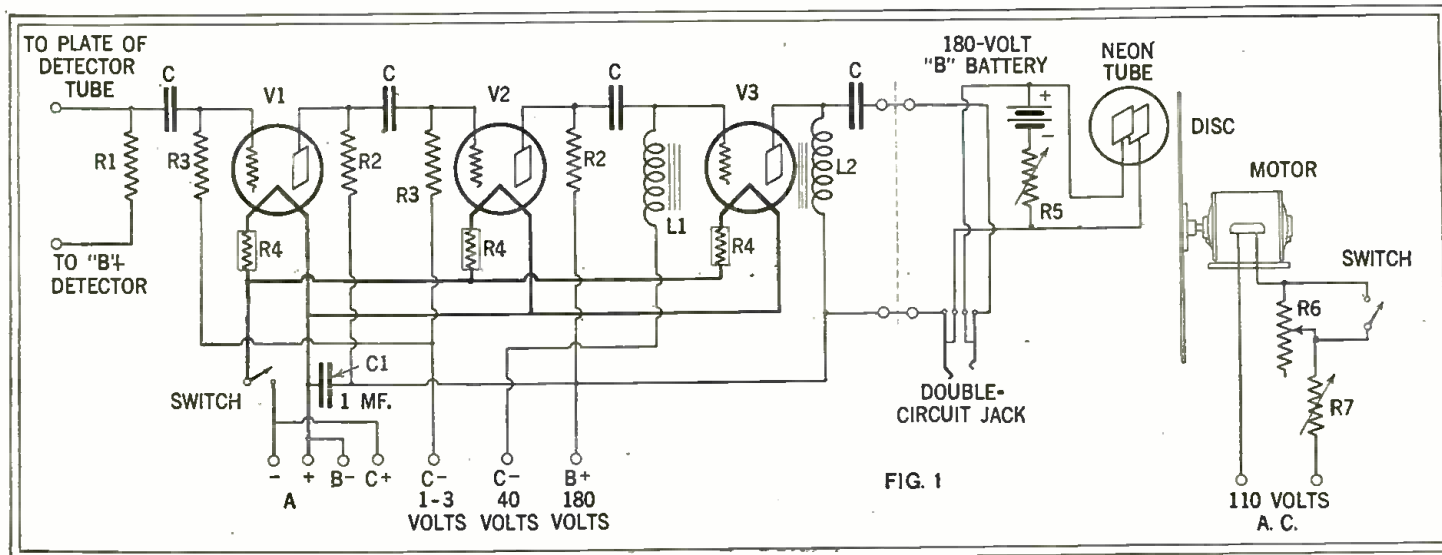

FIG. 1
Behind the disc, when it is mounted in the transmitter, as shown at the left of Fig. 1, is arranged an intense source of light. In front of the disc, and in line with the light-source, a lens is placed in such relation to the disc that a spot of transmitted light is caused to traverse the object. This arrangement is duplicated, so that each spiral has its lens and light-source; thus, two light spots traverse the object alternately, and two images are transmitted, one for the left eye and one correspondingly for the right eye.
At the receiving station a similar device is used, as indicated at the right of Fig. 1. A disc with the same arrangement of holes runs exactly in step with the transmitting disc; but behind the receiving disc is a neon tube, arranged as in ordinary television. The neon tube, however, covers both spirals and illuminates them alternately; so that on the receiving screen appear two images side by side, and separated by approximately half an inch. One of these corresponds to the object as seen by the right
If you are able to use your regular broadcast receiver for WRNY, you will not use for television reception the present audio amplifier if it is of the transformer type. Simply run a wire from the plate (P) post of the detector tube to the top input post of the resistance-coupled amplifier shown in Figs. 1 and 3, unhook the "B+Det" wire running to the power unit or "B" batteries, and bring this same wire to the other input post of the audio amplifier instead. With this arrangement, the detector will be feeding directly into the resistance-coupled amplifier.
You will need the following parts, arranged and connected as shown in Figs. 1 and 3: a wooden baseboard; three UX-type tube sockets, V1, V2, V3; three 1/4-ampere filament ballast resistors, R4; two double-resistor mountings; four 0.5-mf. fixed condensers of the by-pass type, C; one 1.0-mf. condenser, C1; a special high-value grid
shown in Fig. 1. In this position it overcomes the tendency of the amplifier to "motorboat" when used with a "B" socket-power device. The tubes V1 and V2 are of the 240 ("high-mu") type, while V3 is a 171A.
The best arrangement is shown in Fig. 1. The two output posts of the resistance-coupled amplifier are led to a double-circuit telephone jack, which may be mounted on
An alternate arrangement for the output of the amplifier shown in Fig. 1.
A simple layout for an amplifier such as that shown in Fig. 1. It uses straight resistance coupling in the first two stages (see preceding pages for values), a grid impedance coil, and an output
An alternate circuit arrangement is shown in Fig. 2. Here the neon tube is connected directly in series with the plate circuit of the last audio tube, with a single-pole, double-contact switch to shift the output of the tube. The rest of the amplifier and motor circuit is exactly like that of Fig. 1. This is a simple hook-up; but its main disadvantage is that the voltage applied to the "B+" post must be at least 300 volts, as there is a drop of about 150 volts across the neon tube itself, and V3 is a 171A, which operates on 180 volts. As no "B" power unit designed for 171 operation will supply more than about 220 or 250 volts, it will be necessary to connect one or two 45-volt "B" battery blocks in series with the highest voltage lead from the unit you have. At least, this will be cheaper than using four 45-volt blocks for the hook-up of Fig. 1.
The audio amplifier need not be limited to a 171A for the output stage. A 210-type power amplifier will work perfectly well, but in this case the shunt-feed scheme of Fig. 1 should be used. The series arrangement of Fig. 2 will strain the power pack and the neon tube is likely to be burned up by the high plate current. With the Fig. 2
As will be seen from Fig. 1, the construction of the television lamp is apparently quite simple; although this simplified appearance has been secured only after a great deal of research work with gaseous-conduction tubes and neon lamps of all types and for many different uses. Indeed, the development and refinement of this device has involved a review of many rare gases, a deep study of atomic structure, and a long process of reasoning out the acrobatics of electrons. The highly intricate action taking place in the miniature universe of the gas contained in the television lamp is, therefore, not at all in keeping with the utter simplicity of the mechanism and electrical features of the device; yet we must master the first before we can enjoy the second.
The "glow" takes place uniformly over the surface of either one or the other of the two flat and parallel plates (P and P1, Fig. 1); the effect depending upon which plate is connected to the positive and which to the negative side of the power supply. The two parallel plates are so placed with respect to each other as to utilize the principle of "short-path" insulation in order to prevent "glow" between the plates which, of course, would not be very desirable.